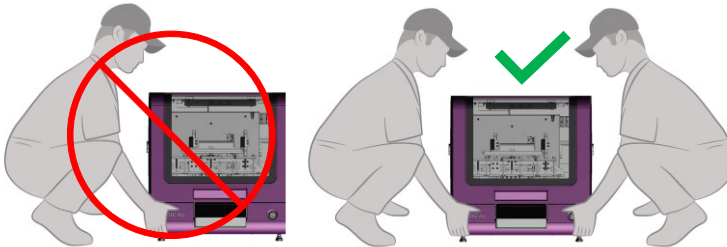

Figure 17. Correct lifting and carrying of the device.
Before unpacking the IndiMag 2, move the package containing the instrument to the installation site. Please note that transport must be carried out by qualified personnel and that at least two people must lift and carry the unit together (Figure 17).
1. Remove the lid from the box (Figure 17).